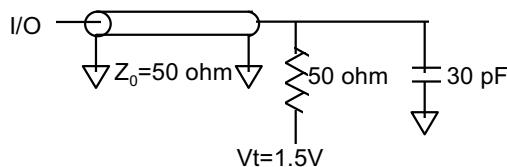

Fig.1 Output Load Equivalent
| Output load | See Figures 1 and 2 |
5. Test conditions as specified with the output loading as shown in Fig. 1 unless otherwise noted.
14. Capacitance derating applies to capacitance different from the load capacitance shown in Fig. 1.
15. Capacitance derating applies to capacitance different from the load capacitance shown in Fig. 1.